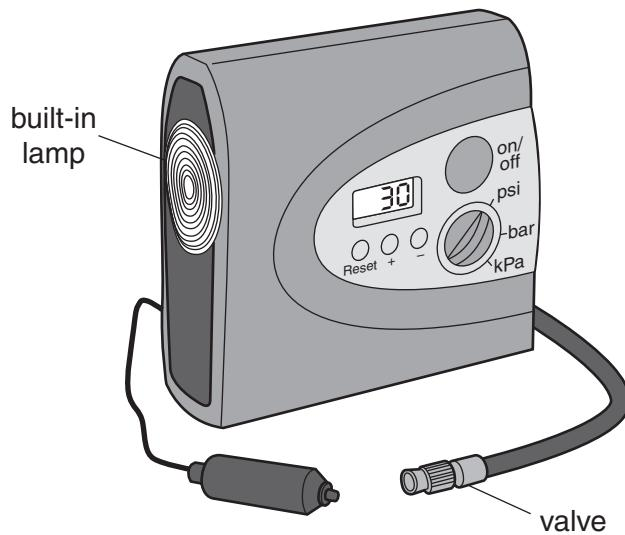

Fig. 10
Fig. 10 shows an electronic car tyre inflator.
- (a) Give **four** design requirements for the electronic car tyre inflator shown in Fig. 10. Justify each requirement.